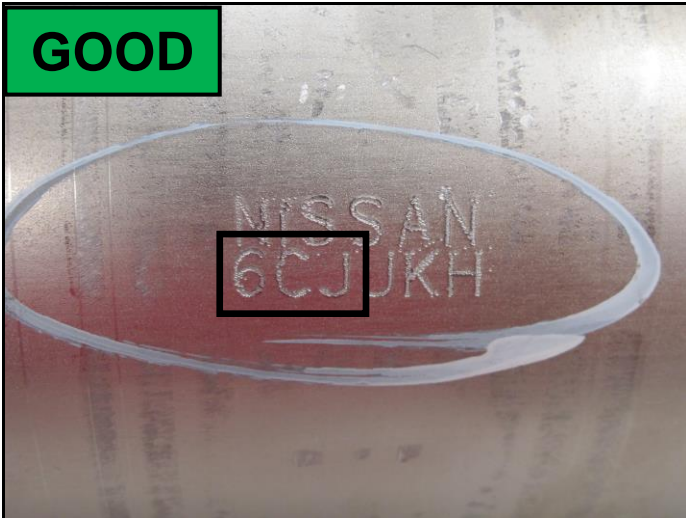

Figure 5
5. Locate the first three digits under the word "NISSAN" (Figure 5, 6).